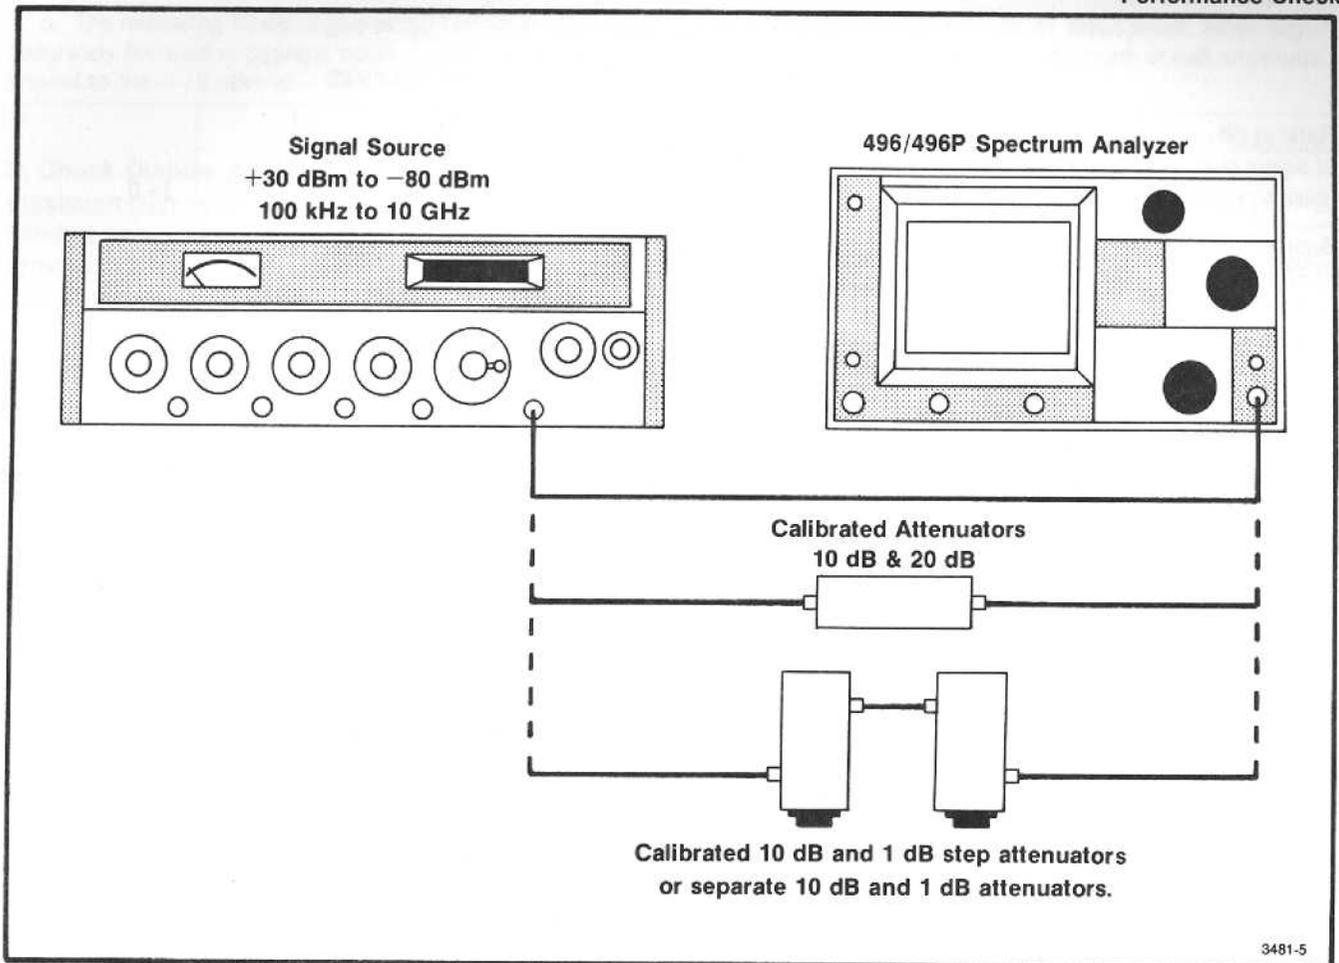

Fig. 3-3. Test equipment setup for verifying attenuator and gain accuracy.
- a. Test equipment is shown in Fig. 3-3. Apply a 0 dBm, 1 GHz signal, from a signal generator through 30 dB of calibrated attenuation to the RF INPUT of the 496/496P. Set the front panel controls as follows:
a. Test equipment setup is shown in Fig. 3-3. Apply a  $-20$  dBm, 100 MHz signal from the signal generator through 1 dB and 10 dB step attenuators (set at 0 dB) to the RF INPUT of the 496/496P. Apply the signal generator directly to the 496/496P if individual fixed attenuators are to be used as the standard. Set the front-panel controls as follows:
a. Test equipment setup is shown in Fig. 3-3. Apply a  $+10$  dBm, 100 MHz signal to the RF INPUT and set the front-panel controls as follows: